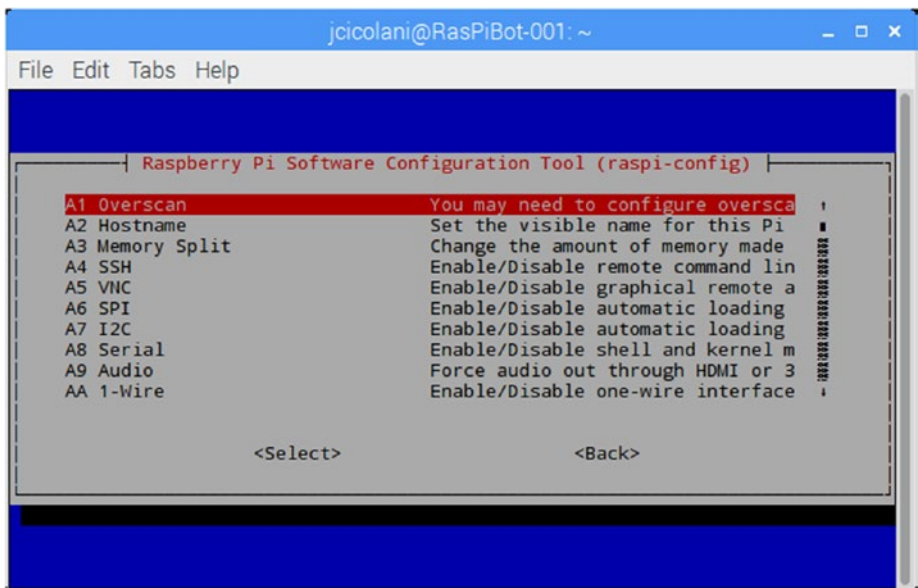

Figure 2-8. *raspi-config* advanced options. Hostname and service activation is accessed here.
12. Make sure that advanced options is highlighted, and then press Enter. This displays the interface and other options (see Figure 2-8).